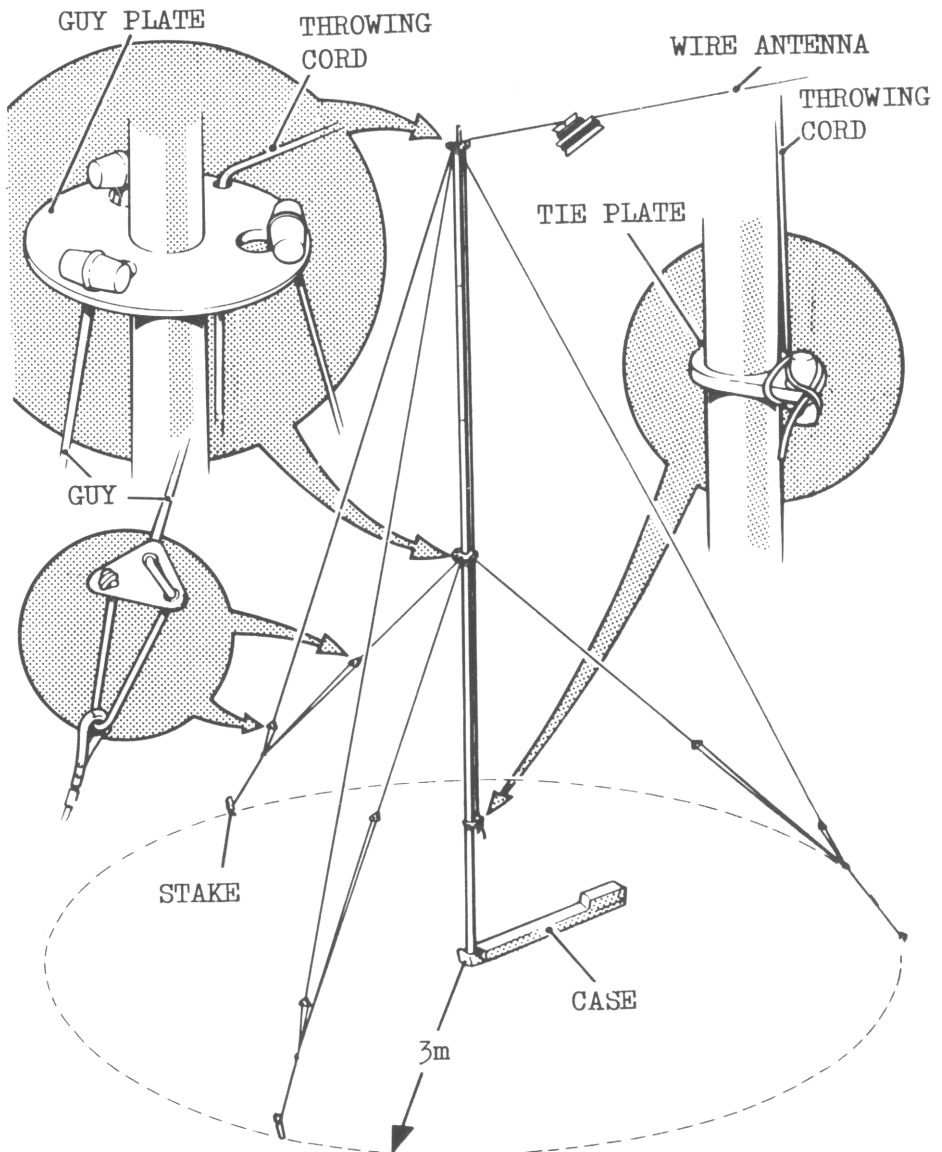
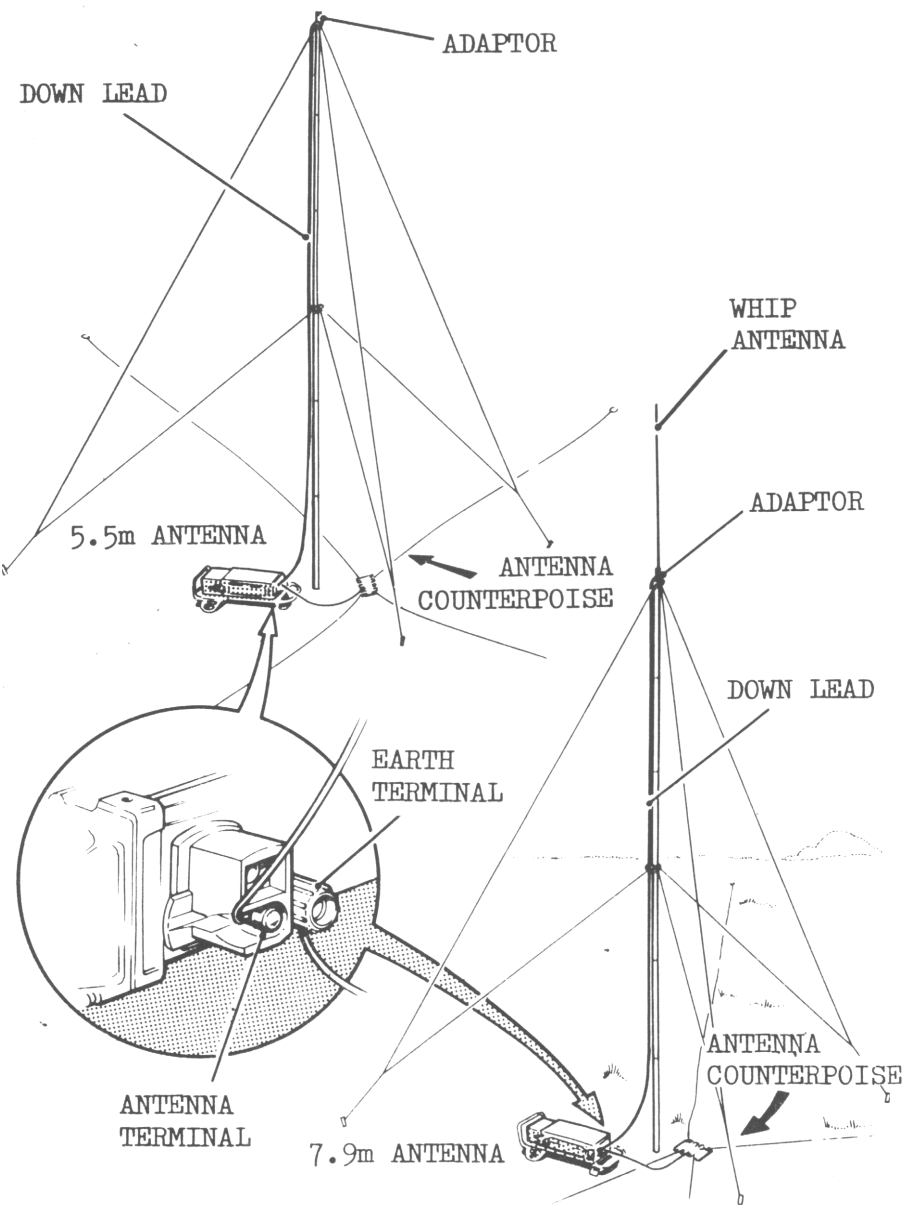

Fig.9 Erection of 5.4m Mast with Wire Antenna
Fig.11 5.4m Mast with Ground Wave Vertical Antennas
5.4M MAST (Fig.9 page 31, Fig.11 page 34)
GROUND WAVE VERTICAL ANTENNAS (Fig.11 overleaf)